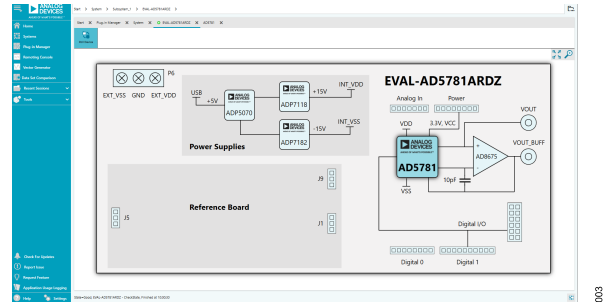

Figure 3. Board View of the EVAL-AD5781ARDZ
3. Double-click the board plug-in to open the **Board View** seen in **Figure 3**.